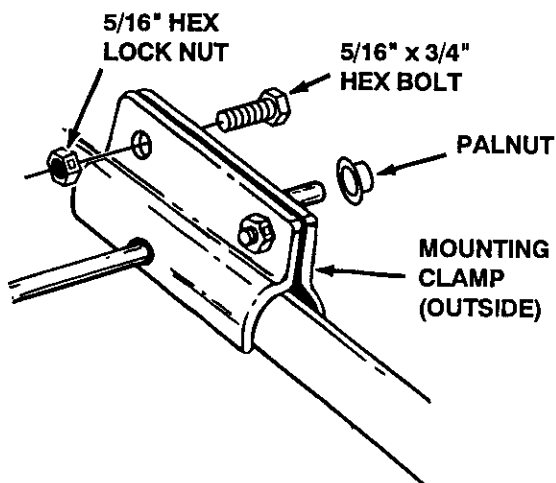

FIGURE 18
- Assemble the two remaining hopper mount clamps onto the pivot rod on the outside of the bag. Fasten them to the inside clamps using four 5/16" x 3/4" hex bolts and 5/16" hex lock nuts. Tighten securely. See figure 18.
- Assemble two palnuts by lightly tapping them onto the ends of the pivot rod with a hammer. See figure 18.